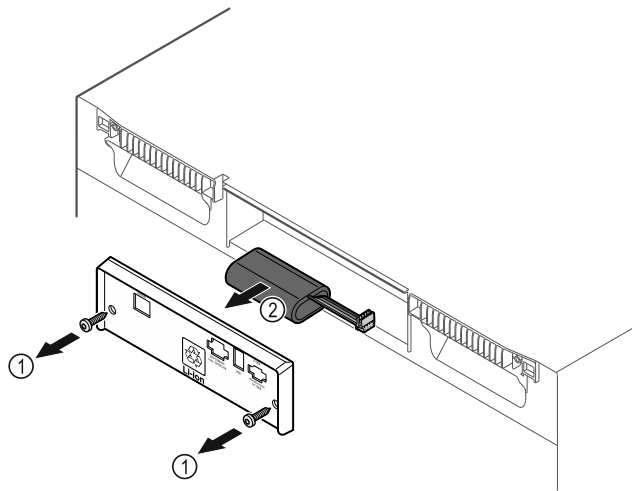

Fig. 187
- ▶ Unscrew screws and remove cover from the back of the appliance Fig. 187 (1).
- ▶ Disconnect and remove battery Fig. 187 (2).